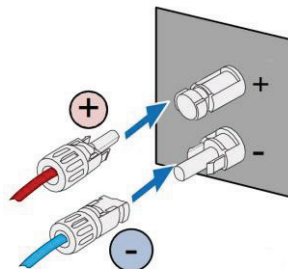

Fig 5.4 PV DC string connected to the inverter
(1) Connect the positive and negative connectors of the PV strings that have been connected to the corresponding positions of the inverter DC interface, and confirm the tight connection, as shown in Fig 5.4;
(2) When disassembling the DC connector from the inverter, insert the tip of a slotted screwdriver into the raised hole in the middle of the connector, and force the movable end of the connector to withdraw.